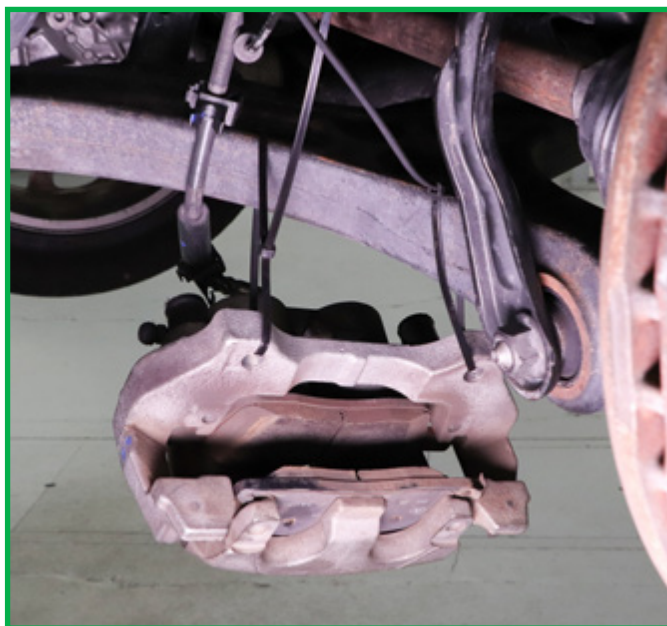

FIGURE 11
10. Secure the brake caliper in a suitable location. (Figure 11)